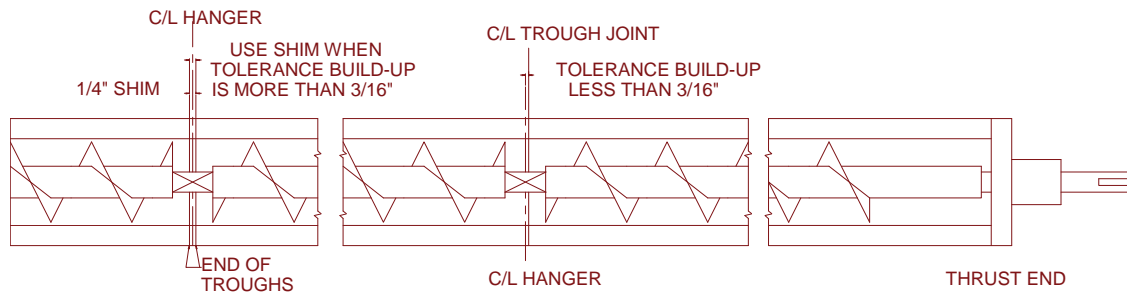

FIGURE 2
3. Place trough ends in proper sequence with discharge spouts properly located. Connect the joints loosely, without tightening the bolts. Align the trough bottom and centerline perfectly using piano wire, as shown in Figures 2 and 3. Then tighten joint bolts and all anchor bolts.